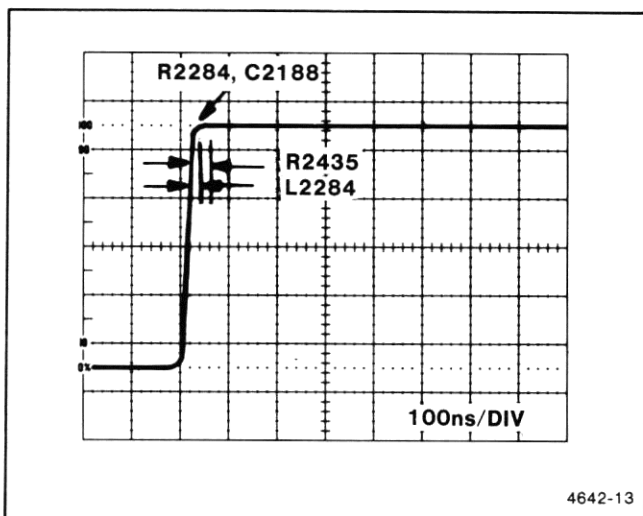

Figure 5-4. Portions of waveform affected by high-frequency adjustments.
l. ADJUST - R2435 (R2935), L2284 (L2784), R2284 (R2784), and C2188 (C2688) for best front-corner response. Refer to Figure 5-4 for identification of the waveform affected by each adjustment.